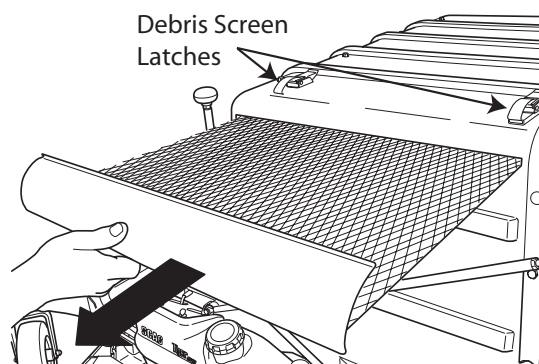

Figure 1-3. Cleaning the Hopper Debris Screen
- D. Unhook the debris screen latches and remove the debris screen from the hopper. See Figure 1-3.